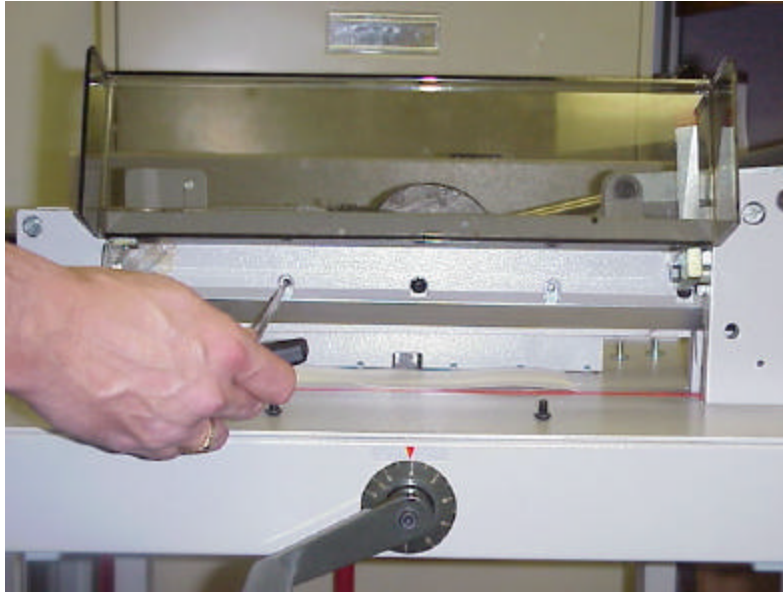

Fig. 3
3. Once the Cover is removed, raise the Knife to the full top position (swing Handle all the way to the right when standing in front of the Cutter until Safety Latch clicks.) Remove the two center Screws on the Knife using the metric Allen found in your tool kit. See Figure 3.